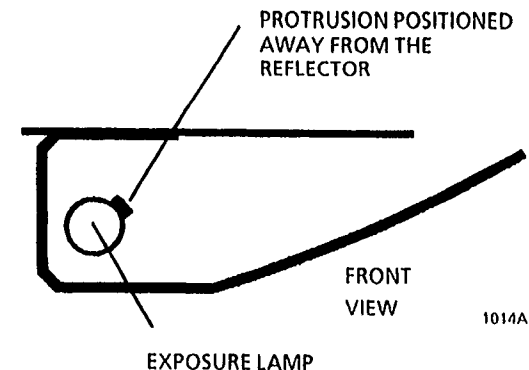

Figure 2. Exposure Lamp Orientation
1. (Figure 2): Install the lamp with the protrusion oriented, as shown in Figure 3.